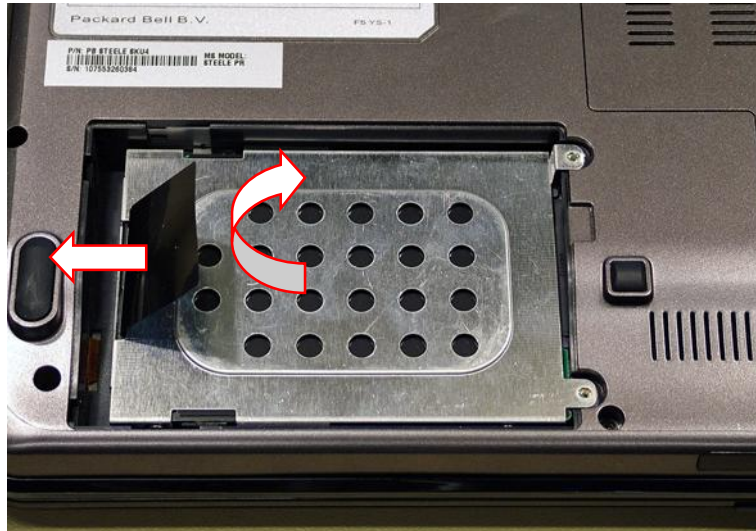

Fig. 3 Disconnecting and removing hard disk drive.
4. Take the drive out of the compartment (see Fig. 3).